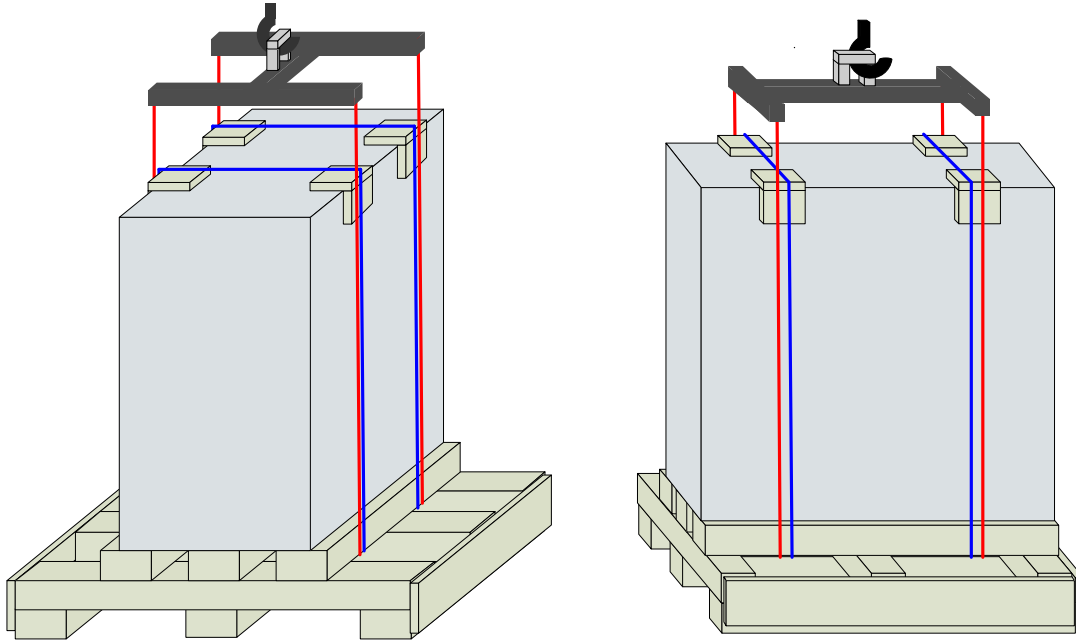

Figure 4-11 Transport methods – crane transport using an H beam
- Transport with a frame structure (see Figure 4-11)